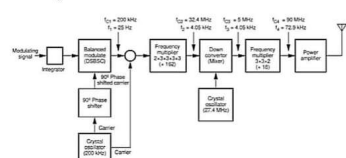

Fig. Q.38.1 Armstrong indirect FM transmitter
Fig. Q.38.1 shows block diagram of FM generation using Armstrong method.
• As shown in the Fig. Q.38.1 crystal oscillator is used to generate a stable unmodulated carrier which is applied to the 90° phase shifter and the summing circuit.